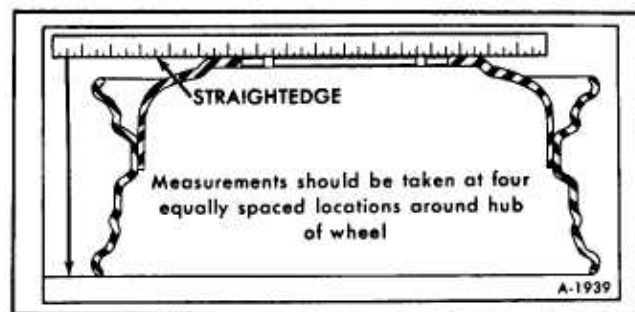

Figure 13—Wheel Checking Diagram
7. A dismantled wheel may be checked for side wobble by placing a straight-edge on face or hub of wheel. Measure distance from straight-edge to edge of wheel rim, this should be checked at four equally spaced locations. If distance is the same at all positions wheel is not distorted. (See figure 13) A dismantled wheel may also be checked for radial, and lateral run-out if desired, by temporarily mounting it to a hub on vehicle. Follow the previous Steps 2, 3, 4, and 5.